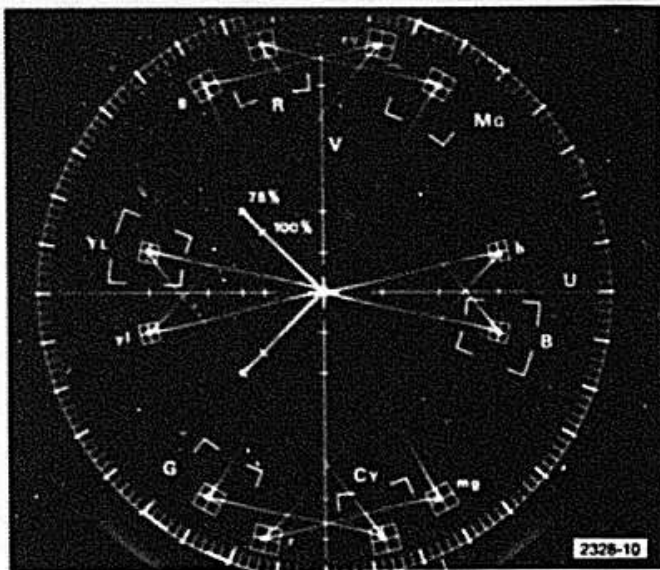

Fig. 2-2. Chrominance Bandpass Filter vectorscope display.
d. CHECK—for straight lines connecting the dots on the vectorscope display, similar to that shown in Fig 2-2.